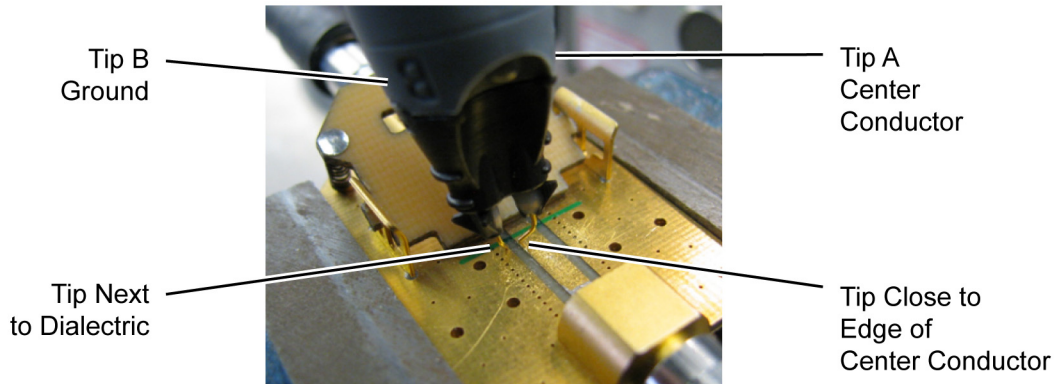

Figure 21 Example of Proper Lead Placement on an E2655B PV Fixture (Browser Tip Shown)
- Clamp the probe leads to the PV fixture's signal or ground. Position the probe tips on the PV fixture as shown in **Figure 21**. When using the solder-in tip, use the fixture's spring-loaded clamps to hold the leads.